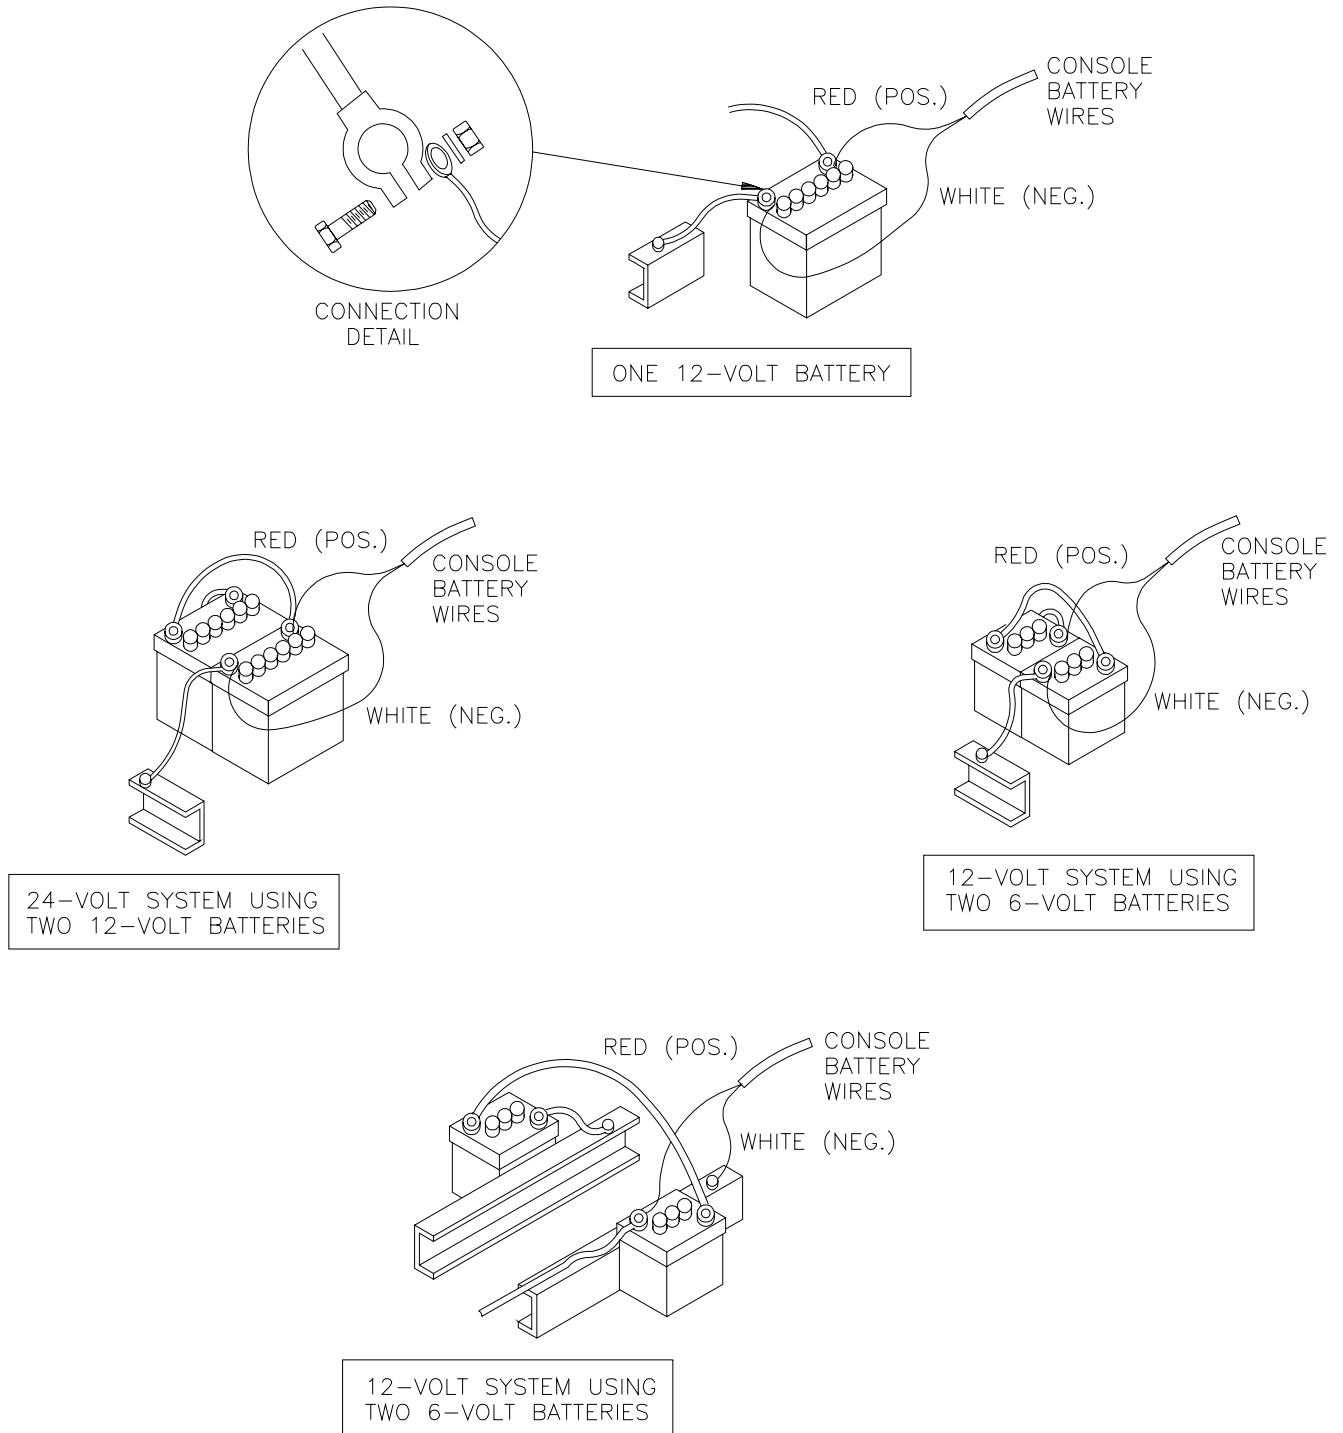

FIGURE 4
- 3) Turn POWER switch OFF and route Red and White battery wires to a 12-Volt battery. Attach White battery wire to the **NEGATIVE** (-) battery terminal, and the Red battery wire directly to the **POSITIVE** (+) battery terminal. See Figure 4 on page 7. (**DO NOT CONNECT RED AND WHITE WIRES TO THE STARTER**). Secure the battery wires with plastic cable ties. **DO NOT** tie battery wires close to existing battery leads or any other electrical wiring.